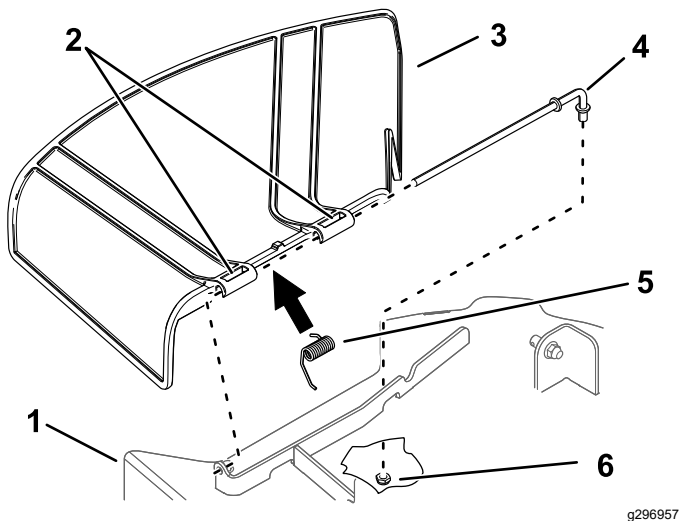

Figure 75
1. Remove the nut (3/8 inch) from the rod under the mower (Figure 75).
2. Slide the rod out of the deck bracket, spring, and grass deflector (Figure 75).
4. Install the new grass deflector (Figure 75).
7. Slide the rod through the second grass-deflector pivot (Figure 75).
9. Secure the rear end of the rod into the mower with a nut (3/8 inch) as shown in Figure 75.